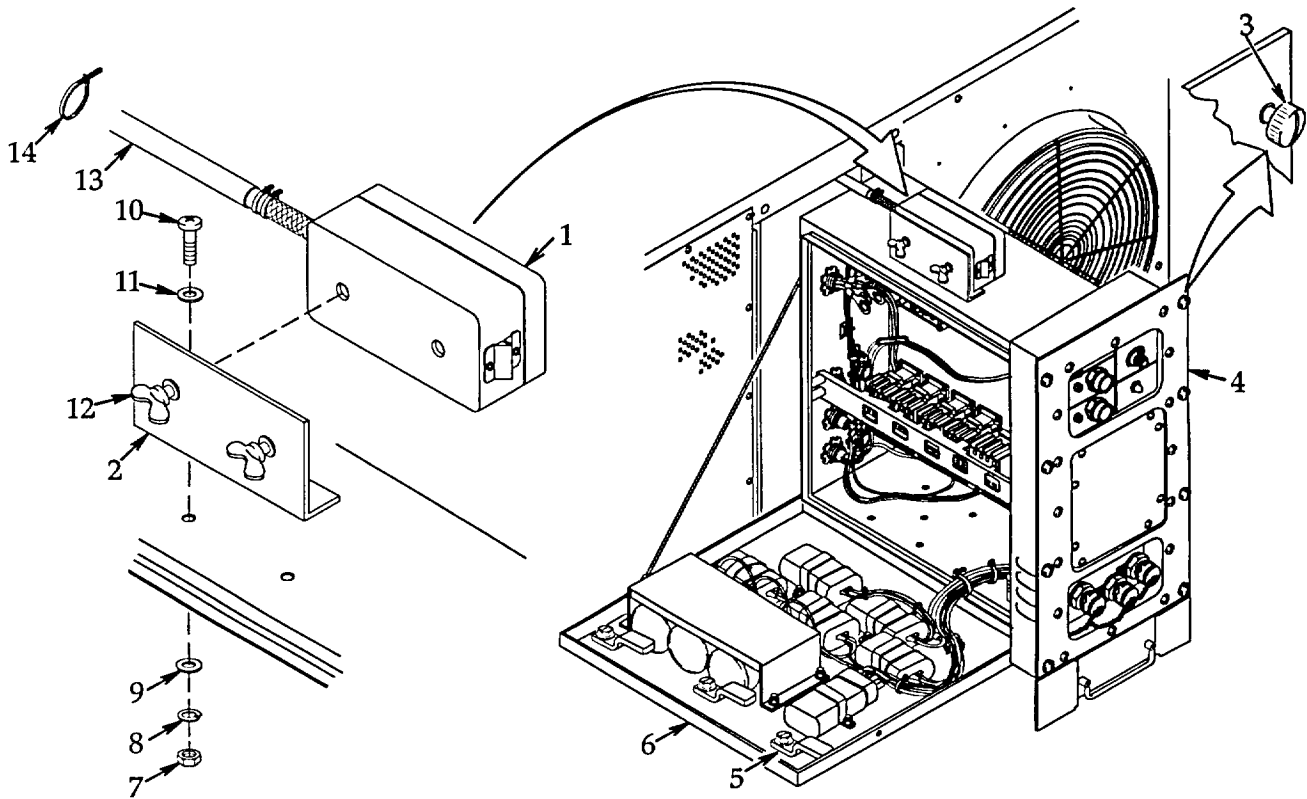

Figure 4-57. Remote Control Box.
4.58 **SECURE REMOTE CONTROL BOX IF USED.** See figure 4-57.